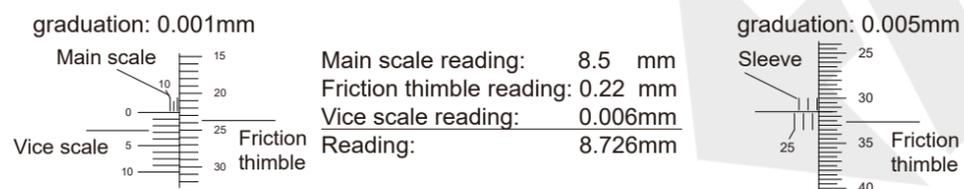

fig.4
7. Install extension rod to measure deep hole. Use open spanner to separate measuring head from main stem, install extension rod between measuring head and main stem, and use open spanner to tight it (fig.4).